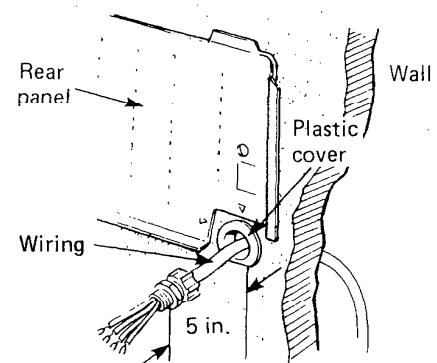

Fig. 14
- a) Insert the interunit wiring (according to local codes) into through-the-wall PVC pipe. Run the wiring toward indoor side allowing approx. 5 in. from the wall face. Fig. 14